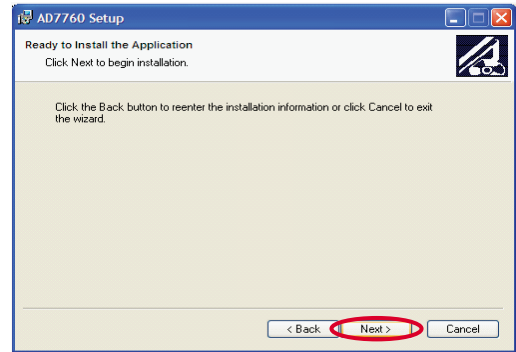

Figure 4. Install the Software
4. Click **Next**, as shown in Figure 4, unless there is a need to go back to the previous dialog box to change the installation location.